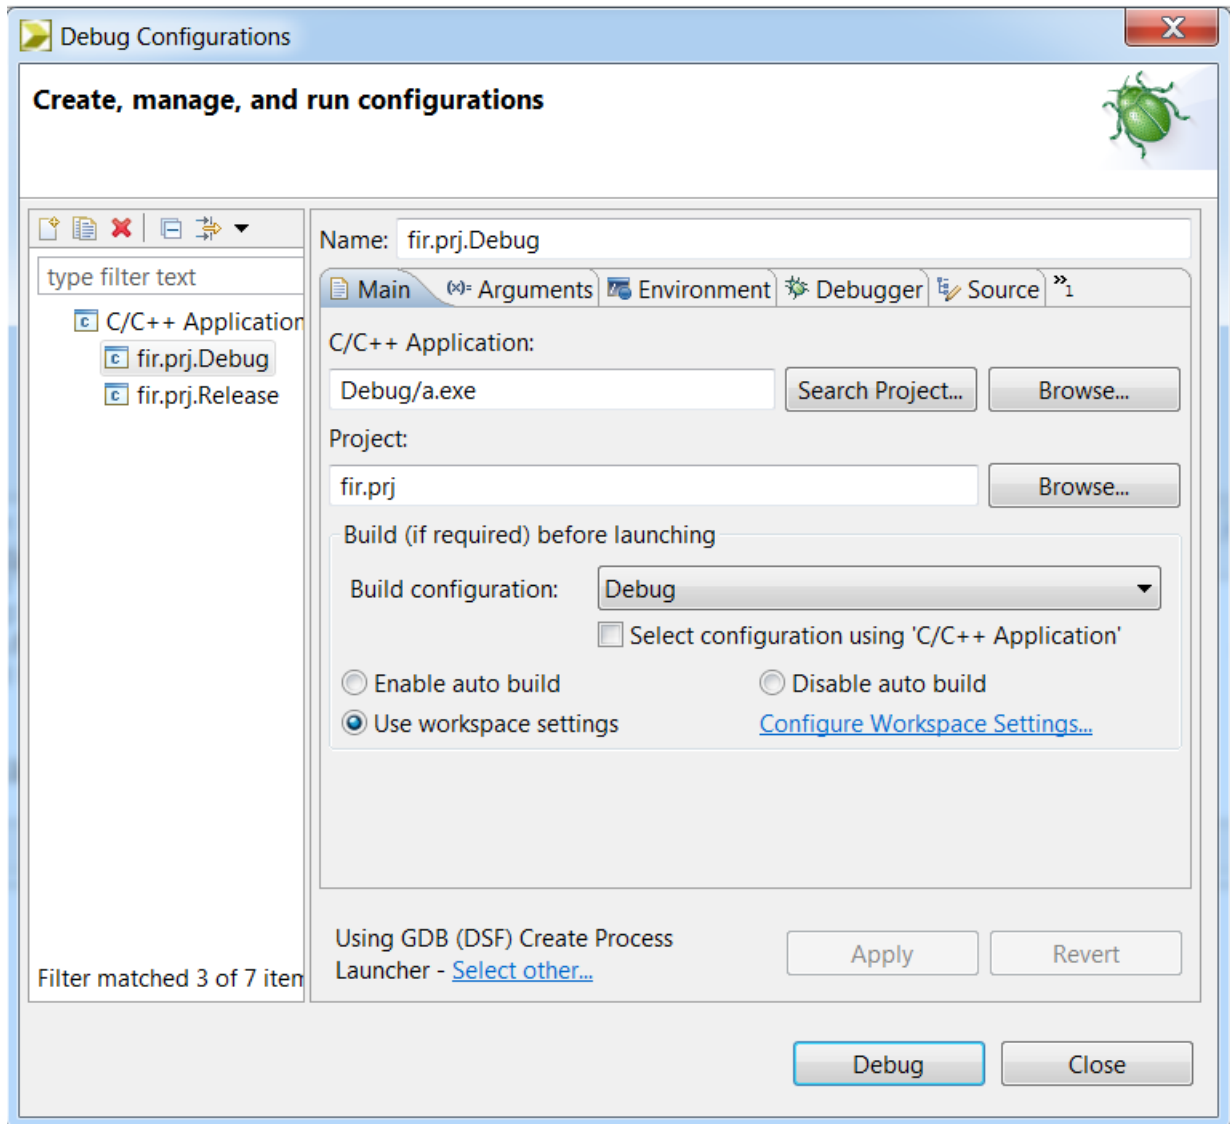

Figure 3-5: Run Configuration: Debug
This opens the Run Configuration dialog box shown in Figure 3-5.
- Expand **C/C++ Application** and select the `fir.prj.Debug` configuration (see Figure 3-5).